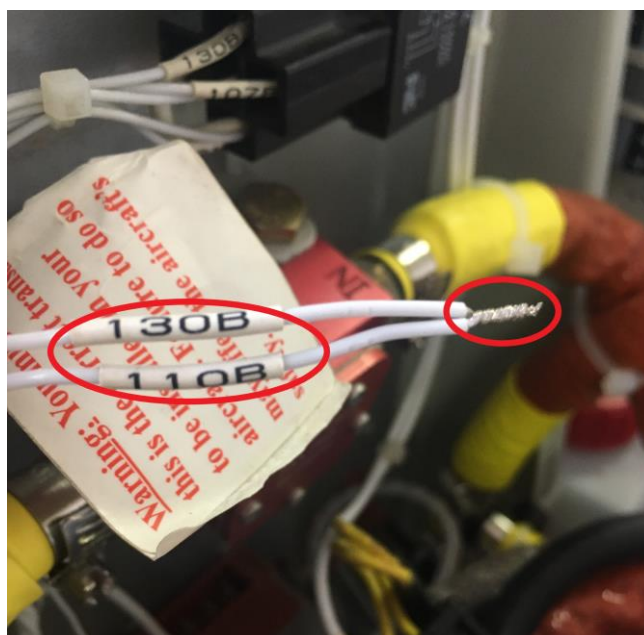

Fig. 26: Connected wires
24) Remove the insulation ends from the wires and splice the wires (See Fig. 26)